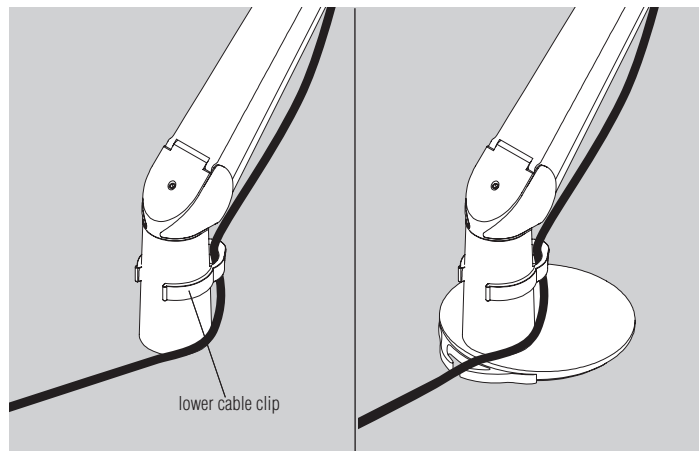

Figure 14
10. For non-grommet mounted applications, monitor cable is clipped into place at base stem with lower cable clip, then run across worksurface to the back (figure 14).